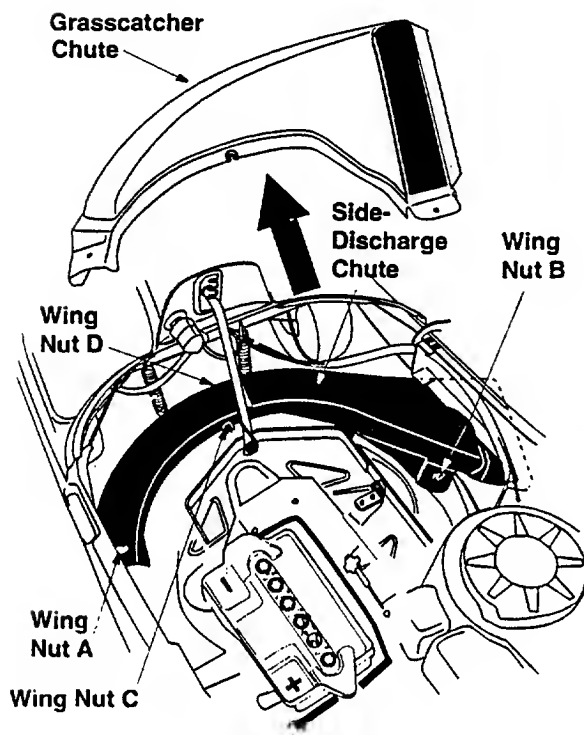

Figure 10
- Remove the two wing nuts (A and B in Figure 10) from two ends of the grasscatcher chute.
- Loosen the two wing nuts (C and D in Figure 10) in the middle of the chute. Do not remove. All four wing nuts (A, B, C, and D) hold the chute to the deck frame.